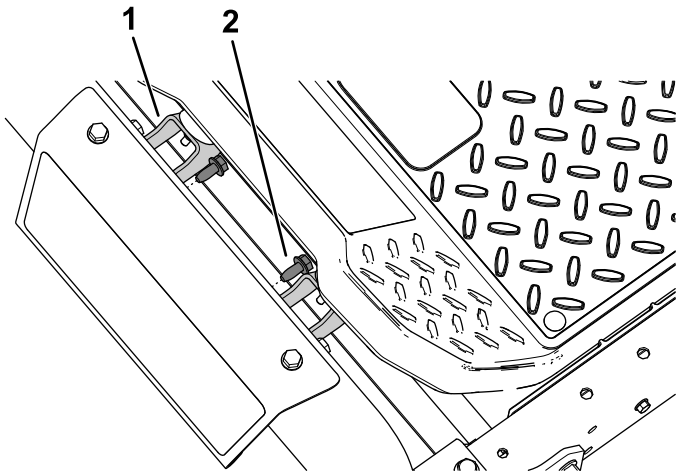

Figure 1
1. If you have a machine with a **MyRide™ platform**, remove the existing 2 thread-forming screws (5/16 x 3/4) securing the bumper brackets (Figure 1).